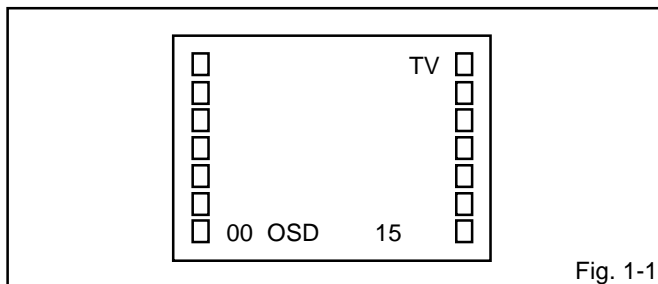

Fig. 1-1
1. In the condition of NO indication on the screen. Press the VOL. DOWN button on the set and the Channel button (9) on the remote control for more than 1 second to appear the adjustment mode on the screen as shown in Fig. 1-1.
4. Activate the adjustment mode display of Fig. 1-1 and press the channel button (02) on the remote control to select "RF.AGC".
3. Activate the adjustment mode display of Fig. 1-1 and press the channel button (01) on the remote control to select "CUT OFF".
4. Activate the adjustment mode display of Fig. 1-1 and press the channel button (10) on the remote control to select "R. BIAS".
4. Activate the adjustment mode display of **Fig. 1-1** and press the channel button (**03**) on the remote control to select "V.VCO".
3. Activate the adjustment mode display of **Fig. 1-1** and press the channel button (**05**) on the remote control to select "H.PHAS".
3. Activate the adjustment mode display of **Fig. 1-1** and press the channel button (**06**) on the remote control to select "V.SIZE".
1. Activate the adjustment mode display of **Fig. 1-1**.
3. Activate the adjustment mode display of **Fig. 1-1** and press the channel button (**13**) on the remote control to select "BRI.CENT".
2. Activate the adjustment mode display of **Fig. 1-1** and press the channel button (**22**) on the remote control to select "TINT".